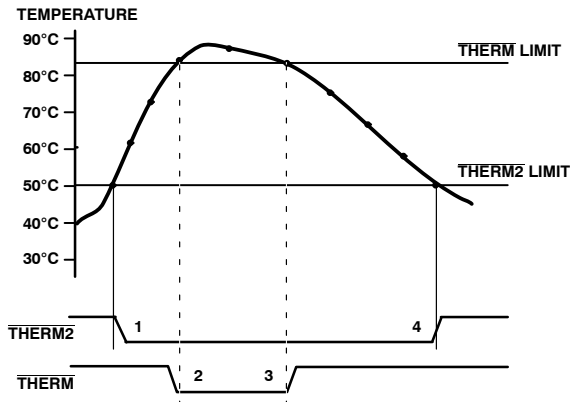

Figure 20. Operation of the $\overline{\text{THERM}}$ and $\overline{\text{THERM2}}$ Interrupts
Figure 20 shows how $\overline{\text{THERM}}$ and $\overline{\text{THERM2}}$ operate together to implement two methods of cooling the system. In this example, the $\overline{\text{THERM2}}$ limits are set lower than the $\overline{\text{THERM}}$ limits. The $\overline{\text{THERM2}}$ output is used to turn on a fan. If the temperature continues to rise and exceeds the $\overline{\text{THERM}}$ limits, the $\overline{\text{THERM}}$ output provides additional cooling by throttling the CPU.
- The $\overline{\text{THERM}}$ output deasserts (goes high) when the temperature falls to $\overline{\text{THERM}}$ limit minus hysteresis. In Figure 20, there is no hysteresis value shown.